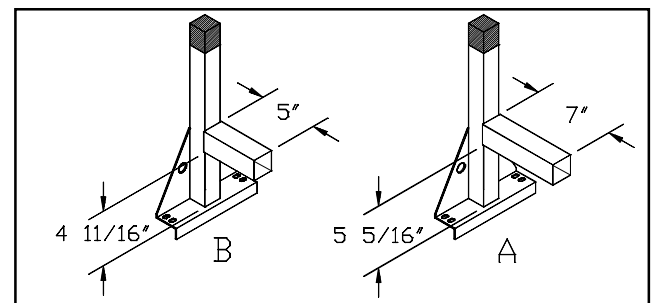

Figure 3. Center Stand Identification
***NOTE:** Models 216 and 2056 are used exclusively on Ford and Chevy GMT600/GMC Savana vans due to the upward bow in the center of the gutter. The front and rear Stands have 7" long sockets. The third (center) Stand can be identified by the 5" socket that is 5/8" lower (*Stand B as shown in Figure 3.*) for the Ford and GM.